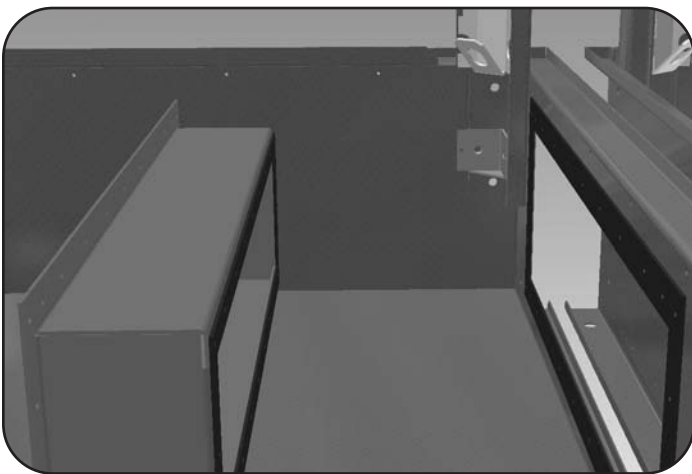

Figure 6
3. Wipe down the flanges on both ends of the flume box. On one end, apply a layer of 1/8" x 1" butyl sealer tape around the face of the flange over the centerline of the holes. Do not over lap or stretch too thinly at the corners. When it is necessary to splice the sealer, be sure to press the two ends together to form a smooth, continuous strip. Apply a second layer of sealer tape over the first layer following the same procedure. Refer to Figure 6